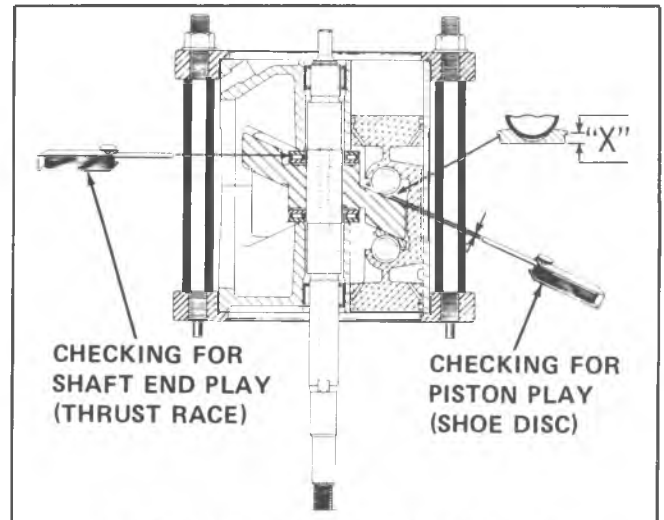

Fig. 44--Checking Piston and Shaft End Play
- An alternate method of selecting a proper race is to use Gage Set J-9661-01, selecting a suitable feeler gage leaf until the result is a 4 to 8 ounce pull on the scale between the rear thrust bearing and upper (or outer rear) thrust race (Fig. 44). If the pull is just less than 4 ounces, add .0005" to the thickness of the feeler stock used to measure the clearance. If the pull on the scale reads just over 8 ounces, then subtract .0005" from the thickness of the feeler stock. **Select a race TWO (2) FULL SIZES LARGER than feeler gage thickness** (If feeler gage is .007", select a No. 9 or 090 race).
21. **Select a thrust race with a "number" corresponding to TWO (2) FULL SIZES LARGER than Dial Indicator or feeler gage measurement of the amount of end play shown.** (If measurement is .007", select a No. 9